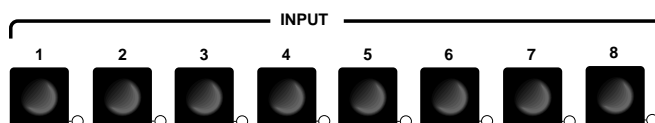

Figure 9. Input Selection Buttons and LEDs
- ② **Input buttons** — The Input 1 through Input 8 buttons (see figure 9) select the associated video input to scale and output. The switch can be a cut or a fade, depending on the switch mode (see “Fade Switch selection box” on page 32). With front panel input selection, audio always follows (switches with) the front panel video selection.